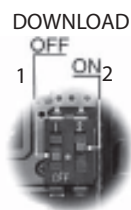

Fig. 2.i
- load the parameters for a controller onto the key (UPLOAD - Fig. 2.h);